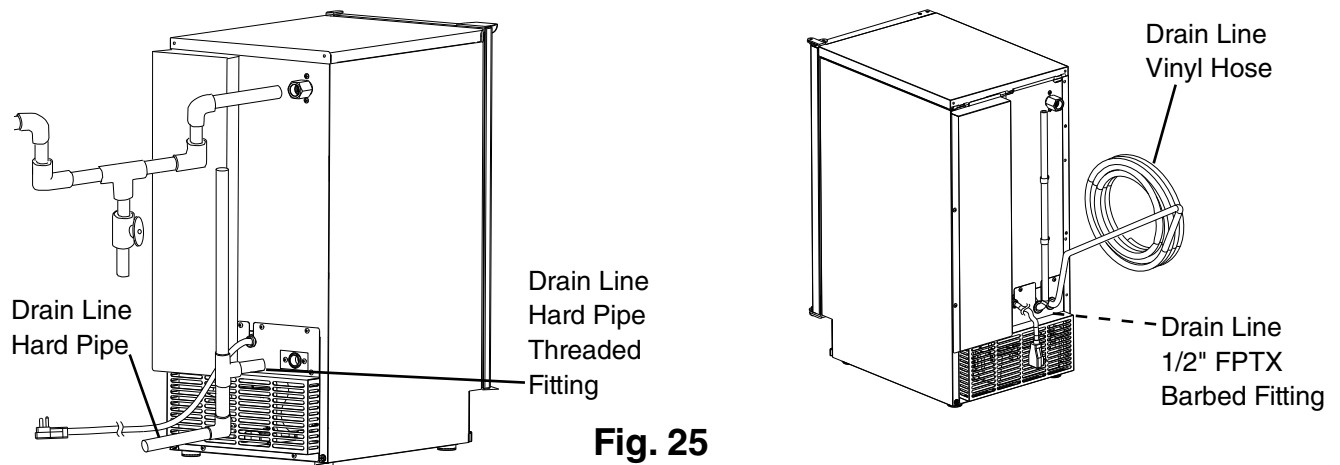

Fig. 25
a) Hard Pipe Drain Line Installation: When connecting with hard pipe, the maximum hard pipe length is 20 feet (6 m). The maximum discharge hard pipe lift height is 10 feet (3.05 m). See Fig. 25.
b) Vinyl Hose Drain Line Installation: When connecting with vinyl tubing, install the vinyl hose barbed fitting from the accessory bag into the drain outlet. Secure the discharge hose to the drain pump with the medium clamp provided in the accessory bag. **NOTICE! Do not over-tighten the clamp.** When routing the vinyl hose, do not allow traps or kinks in the hose that will restrict water flow. The maximum discharge hose length is 20 feet (6 m). The maximum discharge hose lift height is 10 feet (3.05 m). Cut excess hose as needed. See Fig. 25.